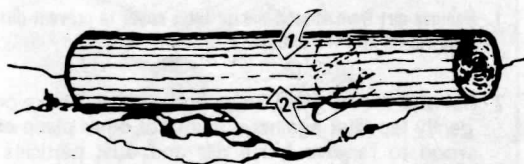

FIGURE 39
3. **Log supported on both ends:** First overbuck $\frac{1}{3}$ diameter of log to avoid splintering. Second, underbuck to meet first cut and avoid pinching. (Figure 39).